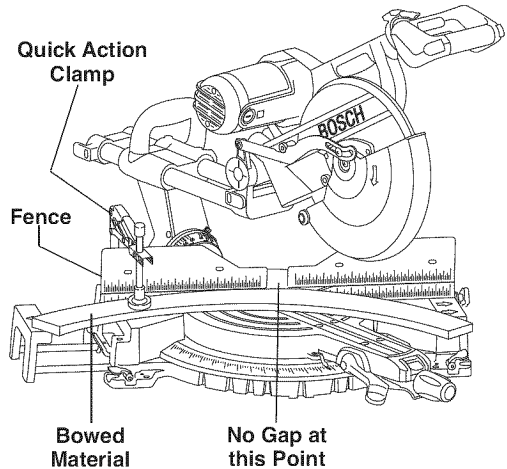

Figure 37. Bowed Material
**WARNING** If workpiece is bowed or warped, clamp it with the outside bowed face toward the fence. Always make certain that there is no gap between the workpiece, fence and table along the line of cut. Bent or warped workpieces can twist or rock and may cause binding on the spinning saw blade while cutting (Figure 37).